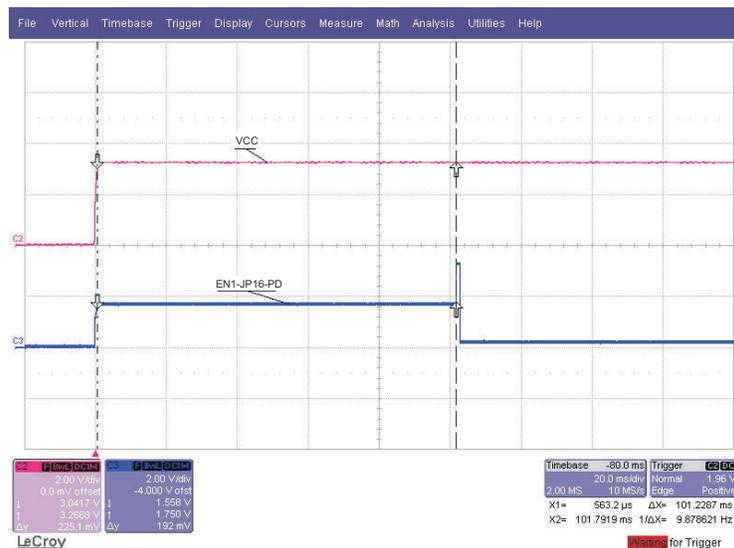

Figure 5-2. Power-Up Delay, With Parameter Change
- Configuration change-pass checksum case: If the user parameter area has been updated but the device has not been RESET (see UCD9081 data sheet RESET description) then the user and application parameter areas do not match. After the next RESET, the checksum test occurs. If the test passes, then the UCD9081 copies the user parameters to the application parameters area. This nominally takes 102 ms as shown in Figure 5-2. Subsequent power ups (with unchanged user parameters) fall into the normal category.
- Configuration change-fail checksum case: If the checksum test fails, then the UCD9081 copies the application parameters back to the user parameters area. This nominally takes 102 ms as shown in Figure 5-2.